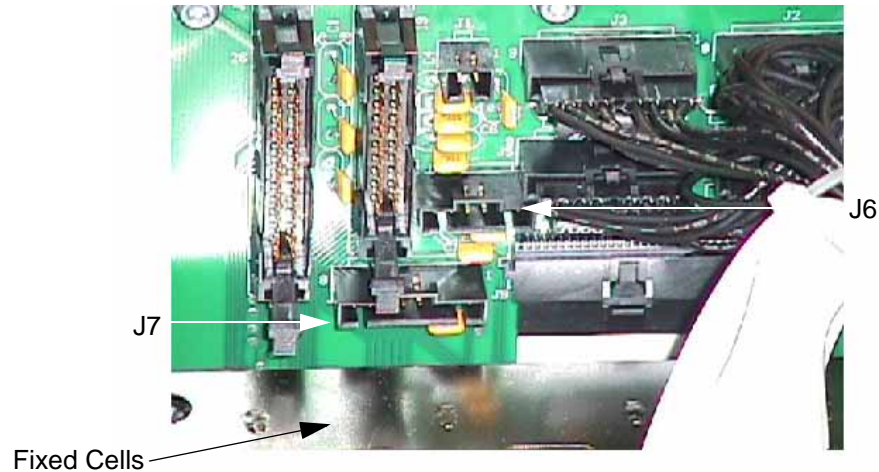

Figure 22. Detail of J7 and J6 Motherboard Connectors
10. After installing the MASTER unit into the rack and before installing the CLIENT unit into the rack, plug the other end of the communication cable (marked P7) into the J7 plug on the motherboard of the MASTER unit. The J7 is the 8-pin connector located just above the fixed cells in the MASTER unit. (See **Figure 22.** for motherboard connector location.)
5. In the CLIENT, attach the 8-pin P7 cable to the J7 connector and the 6-pin P6 cable to the J6 connector on the motherboard. The J7 and J6 connectors are illustrated in **Figure 22**.